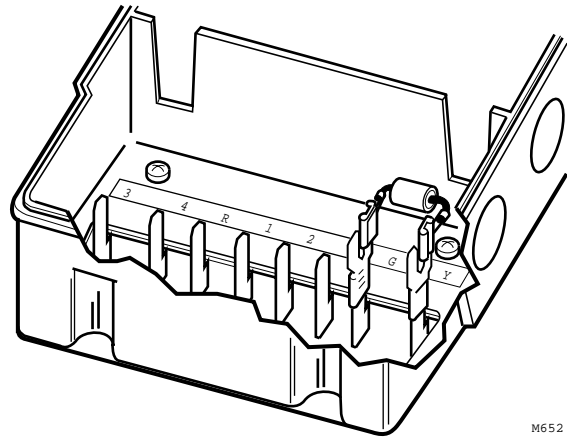

Fig. 11. Attaching a shunt resistor to TRADELINE motors.
- W902 Control requires full stroke feedback resistance of 115 ohms. Select and attach the proper shunt resistor across terminals Y and G (see Table 5 and Fig. 11). Use the white shunt resistor for 160° stroke motors; use the green shunt resistor for 90° stroke motors.
- Slaving a Series 90 Motor requires full stroke feedback resistance of 142 ohms. Select and attach the proper shunt resistor across terminals Y and G (see Table 5 and Fig. 11). Use the red shunt resistor for 160° stroke motors; use the purple shunt resistor for 90° stroke motors.